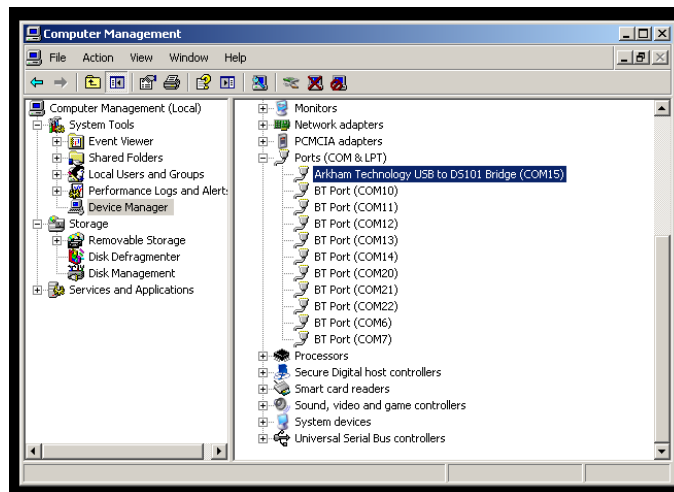

Figure 3-2: Device Manager
The installed device should appear as a branch-entry of the *Ports (COM & LPT)* tree in the *Computer Management* window's right frame as shown in Figure 3-2.
- 2) As shown in Figure 3-2, right click on the entry and select *Properties*.